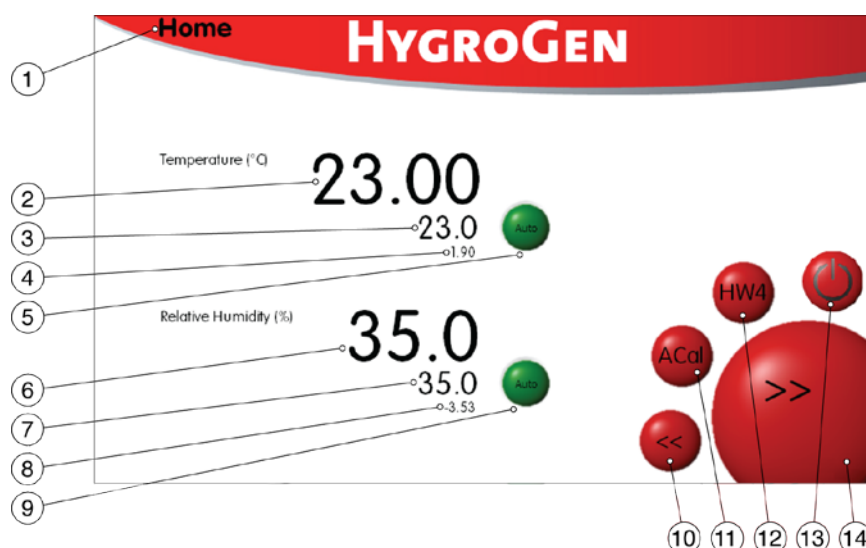

Figure 8: HygroGen2 Home Screen
The HygroGen2 programmer function enables the user to automate a sequence of RH and/or temperature set-points. If the AutoCal function is enabled the Programmer function is only available via the Home menu (Figure 8 item 1).